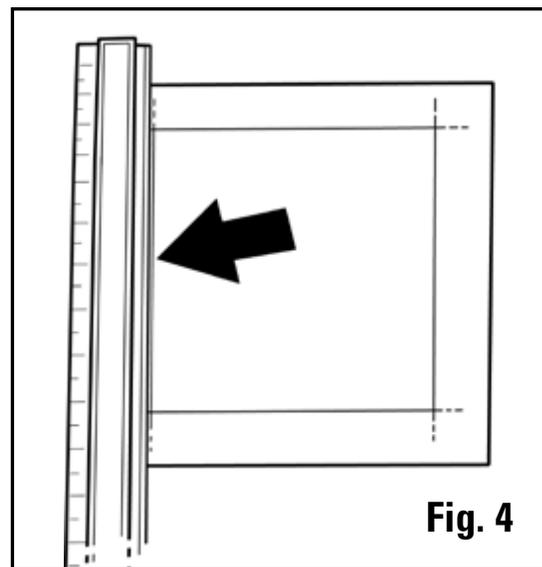
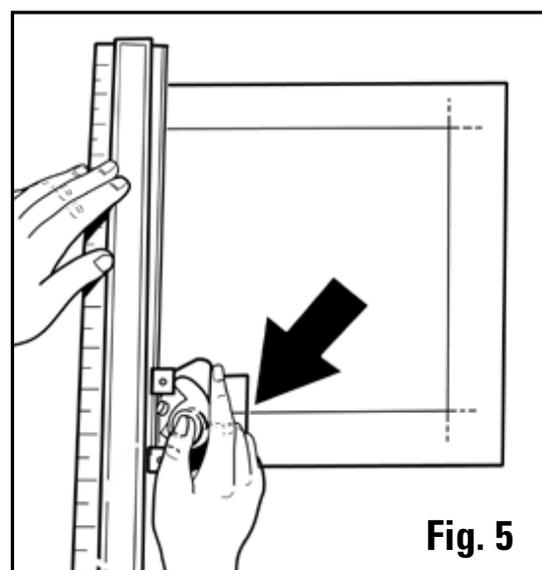

Fig. 4
Fig. 5
2. Place the mat face down on the Slip Sheet. Place the Straight Edge EXACTLY on the left hand border so that the outside edge of the channel is lined up along the pencil line. **Fig.4.** Make sure that the bulk of the mat is to the right hand side of the Straight Edge. Having the mat on the left side of the Straight Edge will result in a reversed bevel cut. Attach the 302 Bevel Cutter to the straight edge by fitting the black nylon guides over the raised edge of the channel. Position the Mat Cutter so that the silver indicator line lines up with the bottom intersecting pencil line. **Fig.5**